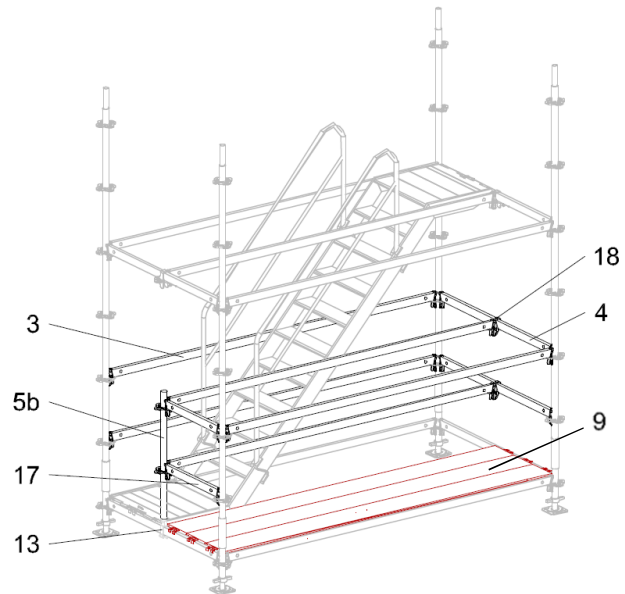

Fig.B6-5
Reposition Steel Decks UDG 300 (9) to position shown. (Fig.B6-5)